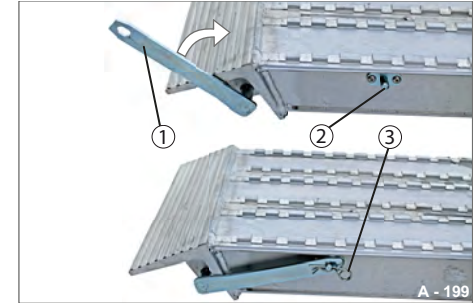

Fig. 27 Closing the locking lever
- ▶ Swing the locking lever (Fig. 27/1) towards the retaining bolt (Fig. 27/2) and attach it to the retaining bolt.
- ▶ Feed the spring pin (Fig. 27/3) through the hole in the retaining bolt. The locking lever is closed and secured.